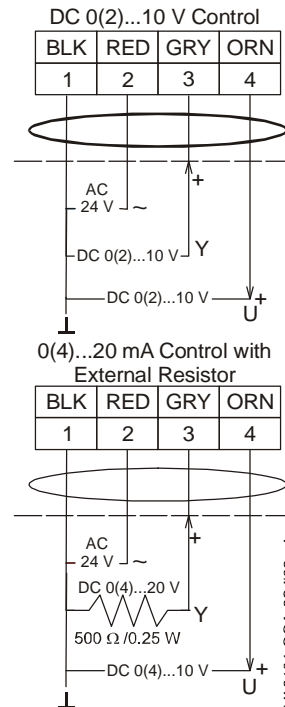

Figure 11: VA9104-GGA-2S Control Wiring Diagram
The VA9104-GGA Series Electric Non-Spring Return valve actuators require AC 24 V power and a DC 0(2) to 10 V or 0(4) to 20 mA controller input signal. These electric actuators include an integrated 120 in. (3.05 m) long cable; see Figure 11 for proper wiring.